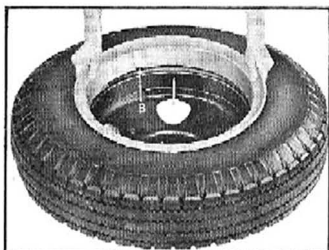

Fig. 87—Positioning Side Ring
5. Place side ring in position with operating notch "B" (fig. 87) approximately three inches from valve on either side.